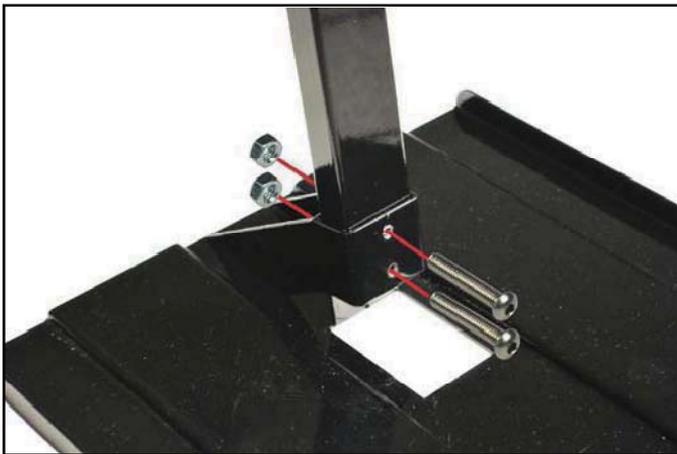

Figure 4. Securing the pedestal to the baseplate
- II. Install the two supplied socket cap screws and nuts (see Figure 4).